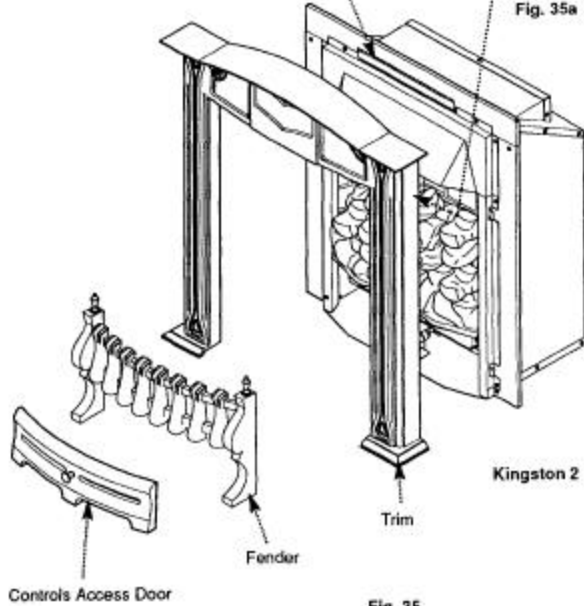

Fig. 35
8.3 Kingston 2 Models (Fig. 35)
2. Take the outercase location bracket from the kit and fasten it using the existing 2 screws to the canopy (Fig. 35). This will now mate with the bracket on the back of the trim.